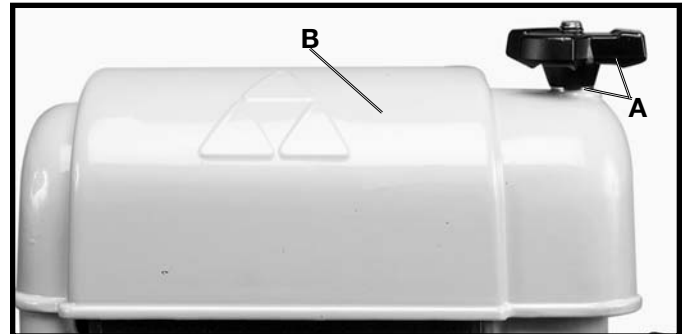

Fig. 12
1. Remove lock knob and washer (A) Fig. 12. Remove top cover (B).
6. Replace top cover (B) Fig. 12.